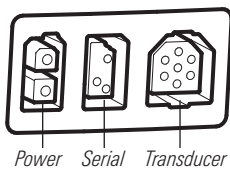

Figure 8
1. Matching the cable plugs to the shape and orientation of the sockets, insert the transducer and power cables into the correct ports on the control head (Figure 8).